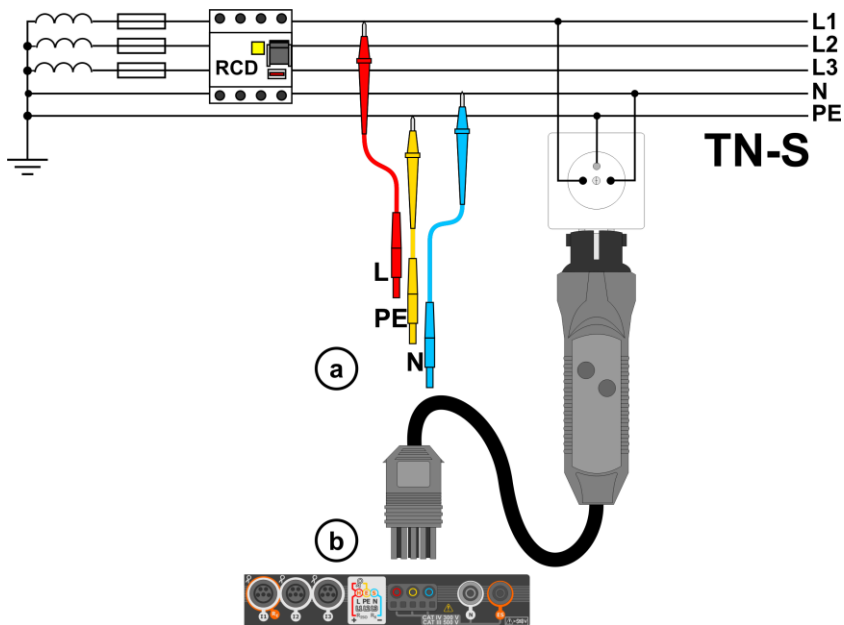
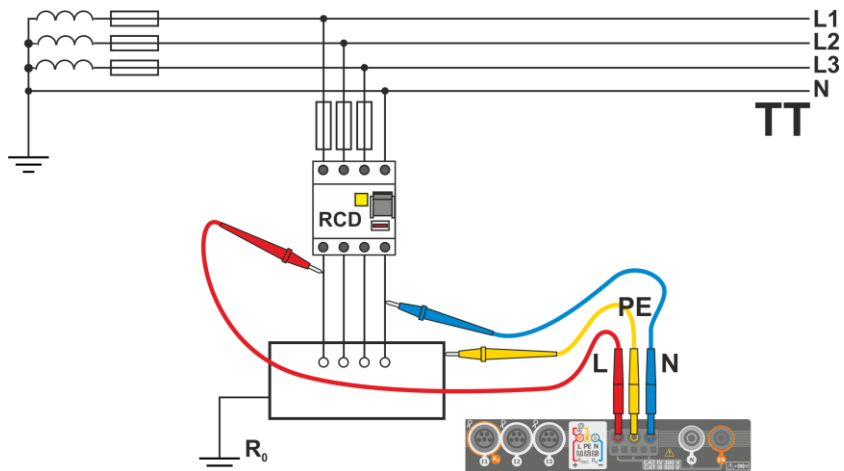
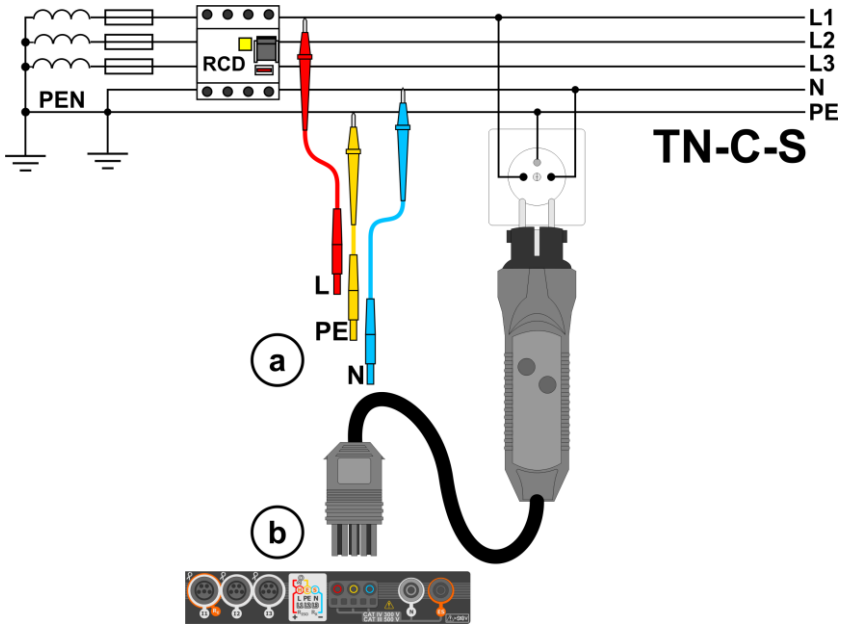

Fig. 3.3 Measurement in the TN-S system
Fig. 3.4 Measurement in the TT system
Fig. 3.5 Measurement in the TN-C-S system
- 1 Connect test leads according to Fig. 3.3 , Fig. 3.4 or Fig. 3.5.